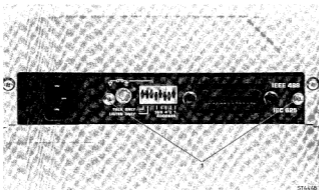

Fig. 5.6. IEC-bus
- Remove the two screws (Fig. 5.6. Item 1).